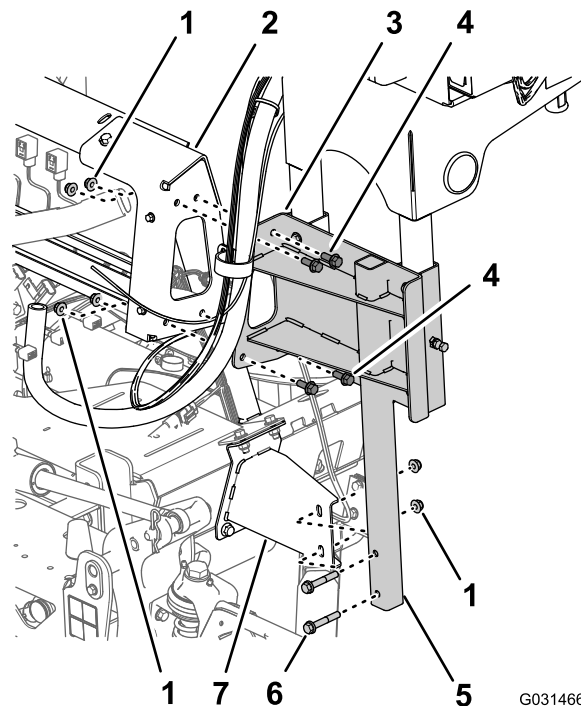

Figure 22
- Remove the 2 flange-head bolts (3/8 x 2-1/4 inches) and 2 flange locknuts (3/8 inch) that secures the lower tube frame of the pivoting hose reel to the mounting bracket at the right frame channel of the machine (Figure 22).
- Remove the 4 flange-head bolts (3/8 x 1 inch) and 4 flange locknuts (3/8 inch) that secure the support channel of the pivoting hose reel to the manifold mount for the sprayer valves (Figure 22).